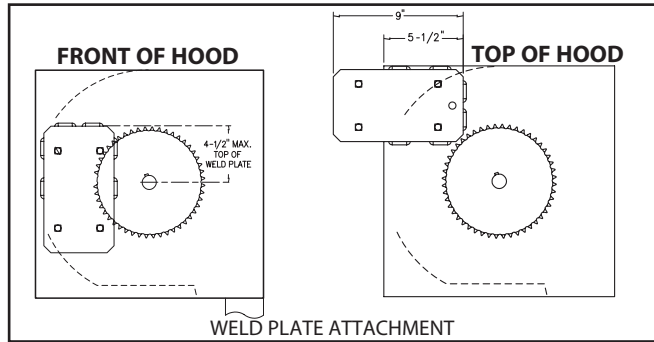

Figure 1
The RSX™ Rolling Steel Operator can be assembled for **right-hand** or **left-hand** mounting **Top of Hood, Front of Hood, Fig. 1 & Fig. 2**. (Each model can also be wall mounted. Page 4.3)
- 2) Weld the Rolling Door weld plate assembly (provided) to the door headplate, A minimum of two 1" weld beads are required on each side of the weld plate for proper attachment. See **Fig 1** for proper placement.